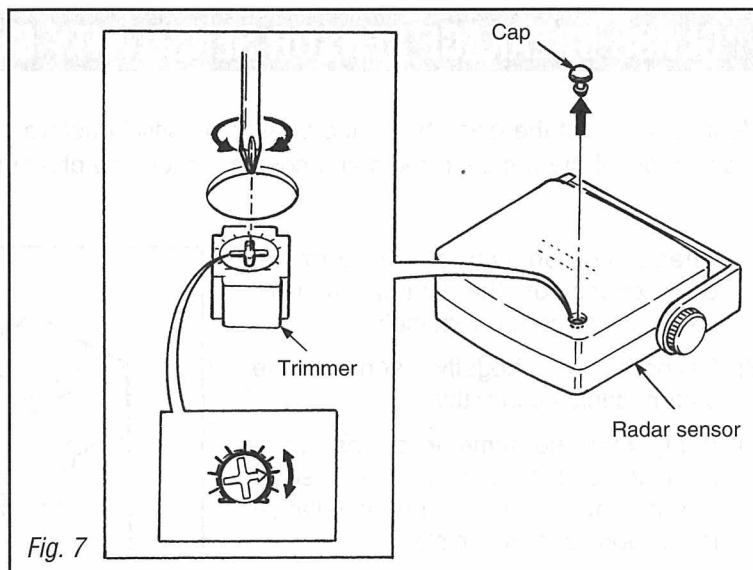

Fig. 7
- 9) Turn the trimmer of the radar sensor ONE scale position anti-clockwise. (see figure 7)
No	Push the "Disarming" button of the remote once to stop the alarm and disarm the system. Turn the trimmer of the radar sensor clockwise for one scale position. (See figure 7).